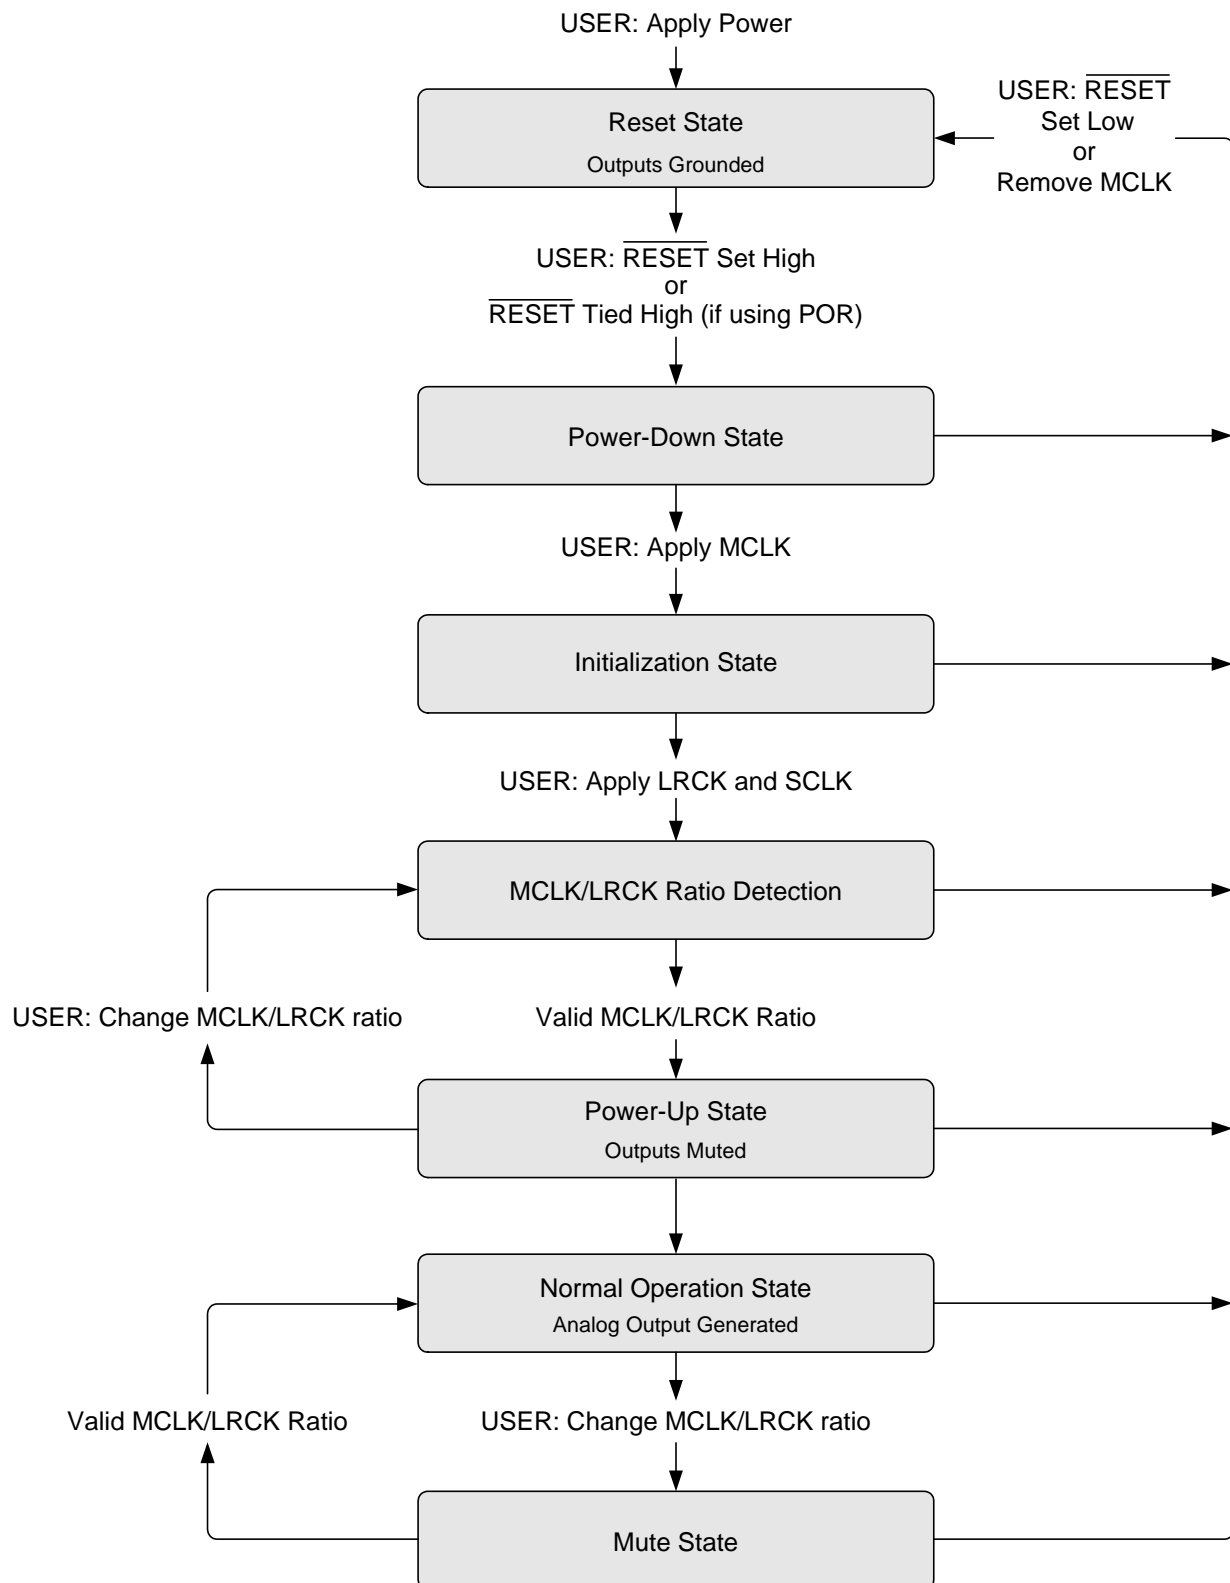

Figure 9. Initialization and Power-Down Sequence Diagram
The CS4353 operates in one of three operational modes. The device will auto-detect the correct mode when the input sample rate (F_s), defined by the LRCK frequency, falls within one of the ranges illustrated in Table 3. Sample rates outside the specified range for each mode are not supported. In addition to a valid LRCK frequency, a valid serial clock (SCLK) and master clock (MCLK) must also be applied to the device for speed mode auto-detection; see Figure 9.
See Figure 9 for a diagram of the device's states and transition conditions.
4. After the power supplies, configuration pins, and clock signals are stable, bring $\overline{\text{RESET}}$ high. The device will initiate the power-up sequence seen in Figure 9. The sequence will complete and audio will be output from AOUTx within 50 ms after $\overline{\text{RESET}}$ is set high.
3. After the power supplies and configuration pins are stable, provide the correct MCLK, LRCK, and SCLK signals to progress from the 'Power-Down State' in the power-up sequence seen in Figure 9. The sequence will complete and audio will be output from the AOUTx pins within 50 ms after valid clocks are applied.